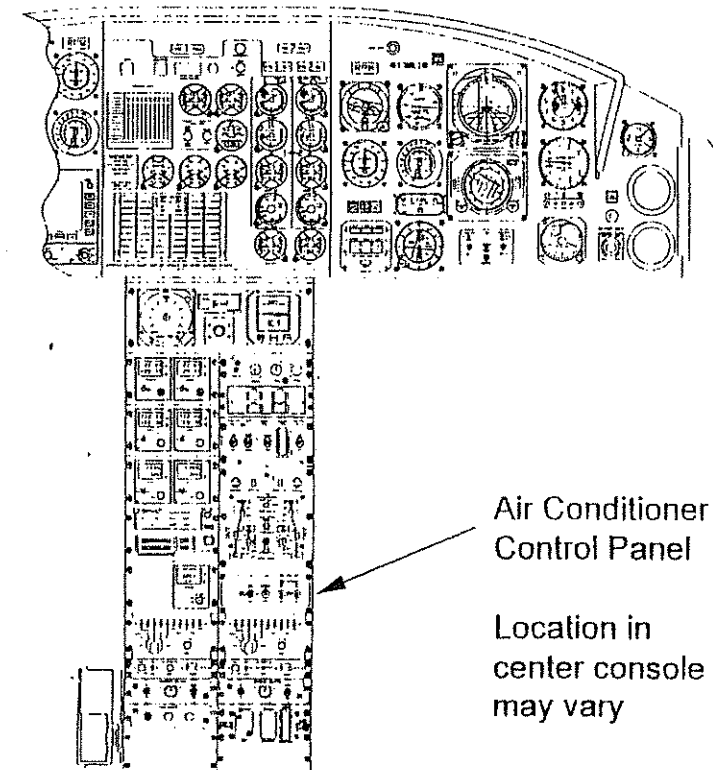

Figure 2. RH Instrument Panel/Center Console
**AC Control Panel** - Located in center console. (see fig 2)